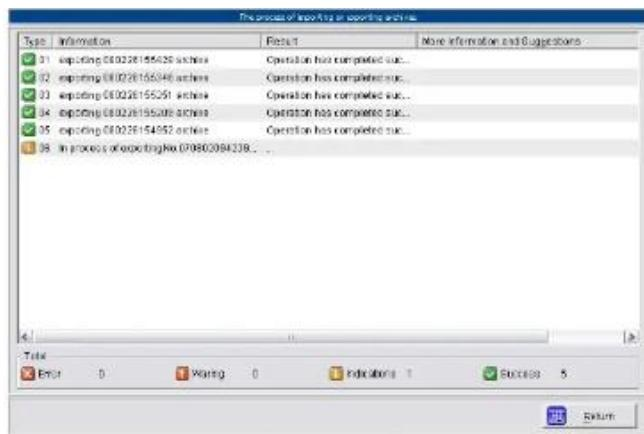

Fig.5-38 Export archive 2
3. Then a dialog box for export process pops up as Fig.5-38, the export result displays in the window, after
3. Then a dialog box of import process pops up as Fig.5-38, the dialog box includes result of import, after finished import, please close the dialog box.